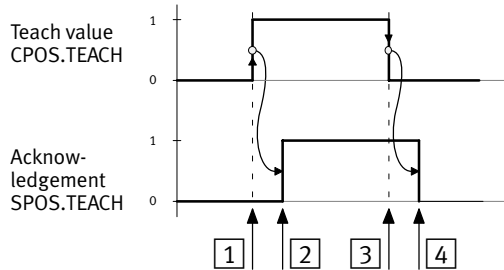

Fig. 3/9: Handshake during teaching
3. Teaching is done via the bit handshake in the control and status bytes CPOS/SPOS (Fig. 3/9).